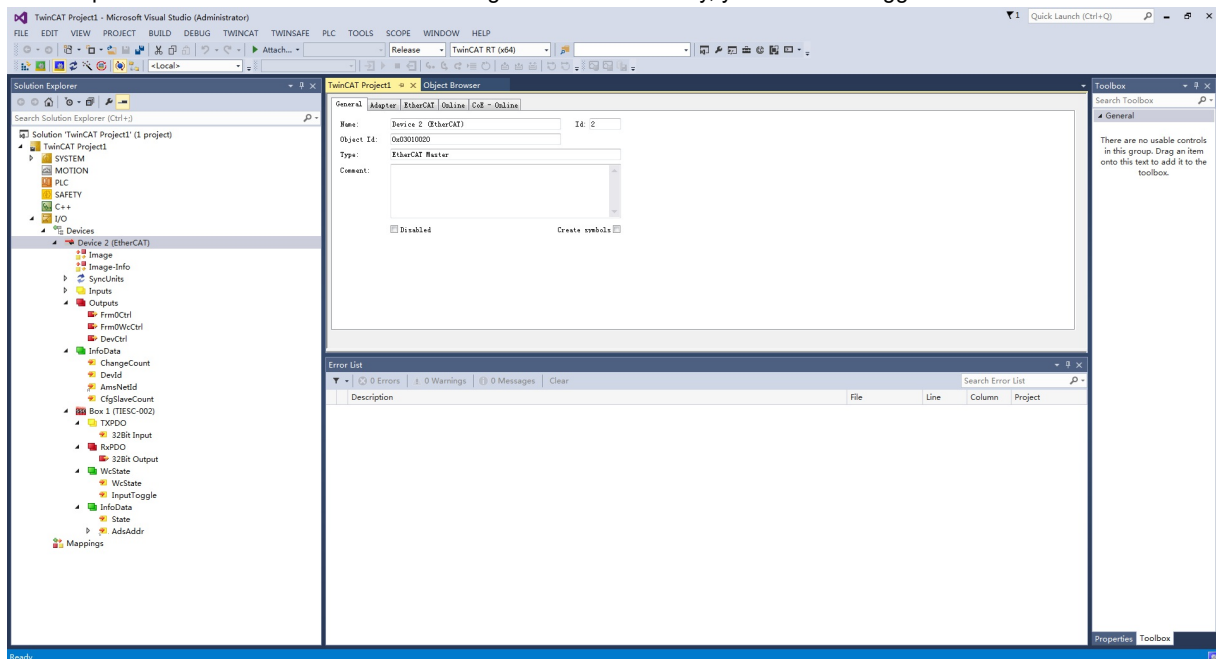

Figure 4-1 TI Boxn(ti-esc) detected in TwinCAT
8. A dialog will pop asking Load I/O Devices, select Yes.Next dialog asks confirmation to Activate Free Run - select Yes. This will put TI ESC into OP mode as shown in figure 4-1. Alternatively, you can use "Toggle Free Run State" bottom.